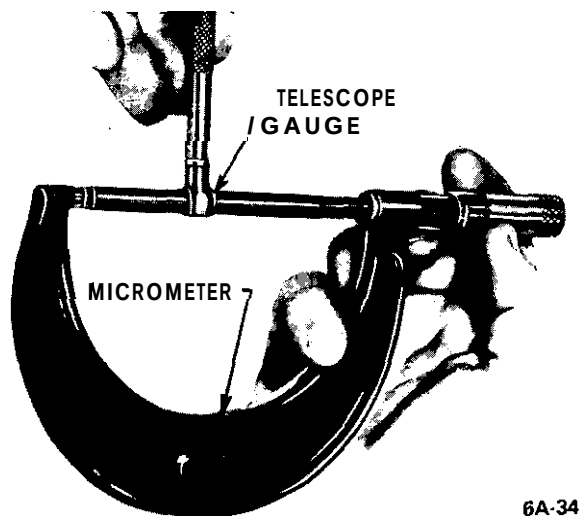

Figure 6A-34 Measuring Telescope Gauge
3. Measure the piston to be installed. See Figure 6A-32. The piston must be measured at right angles to the piston pin 2-1/2" below the top of piston. The piston must be between .0008" and .0012" smaller than the cylinder bore.